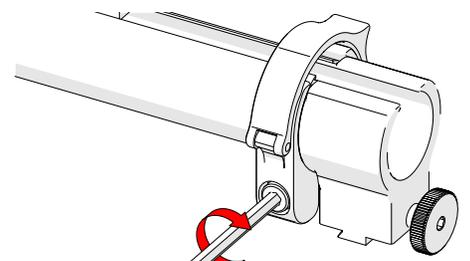

Fig. 76 - Tighten clamp screw
4. Tighten the clamp screw (Fig. 76).